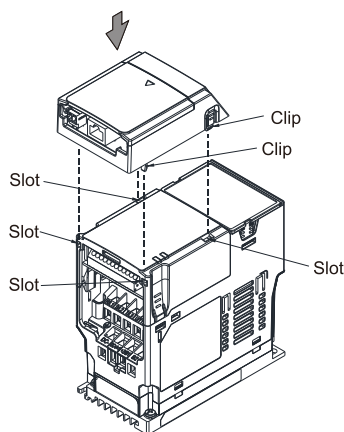

Figure 8-24
8. Assemble the mounting box for the option card: Aim the four clips of the mounting box for the option card at the slots on the upper cover of the motor drive, and then press downward to have the four clips engage the slots, as shown in the Figure 8-24.